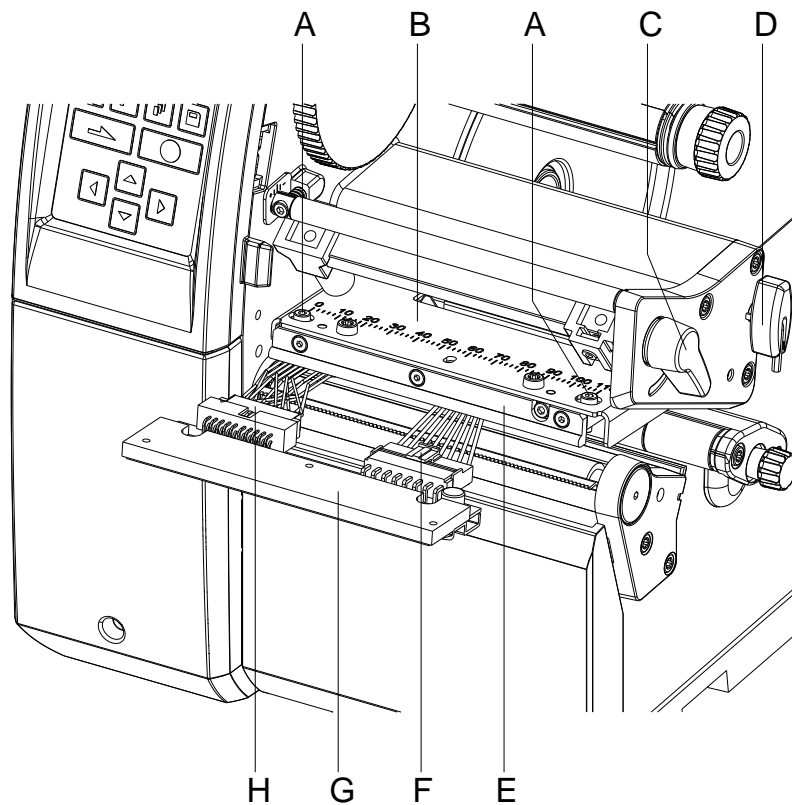

Figure 7
7. Turn the lever (C, Figure 7) clockwise to lock the printhead.
2. Turn the lever (C, Figure 7) counterclockwise to lift the printhead.
4. Loosen the screw (B).
5. Press the locking (A) and slowly pull the label photocell outward via the handle (C). Make sure that the photocell cable is not stretched.
6. Clean the label photocell and the sensor slots (D) with a brush or a cotton bud soaked in pure alcohol.
7. Push back the label photocell at the handle (C) and set it (see chapter **Fehler! Verweisquelle konnte nicht gefunden werden.**, page **Fehler! Textmarke nicht definiert.**).
9. Turn the lever (C, Figure 7) clockwise to lock the printhead.
1. Turn the lever (C, Figure 7) counterclockwise to lift the printhead.
4. Push the label photocell on the handle (C) as far as it will go in the direction of the housing and pull the connection cable out of the plug at the rear end of the label photocell.
5. Press the locking (A) and slowly pull the label photocell outward via the handle (C). In this process, push the spacer plate (E) out of the guiding of the photocell.
7. Push the label photocell on the handle (C) towards the housing wall.
8. Press the locking (A) and push the spacer plate (E) back into the guiding of photocell.
13. Turn the lever (C, Figure 7) clockwise to lock the printhead.